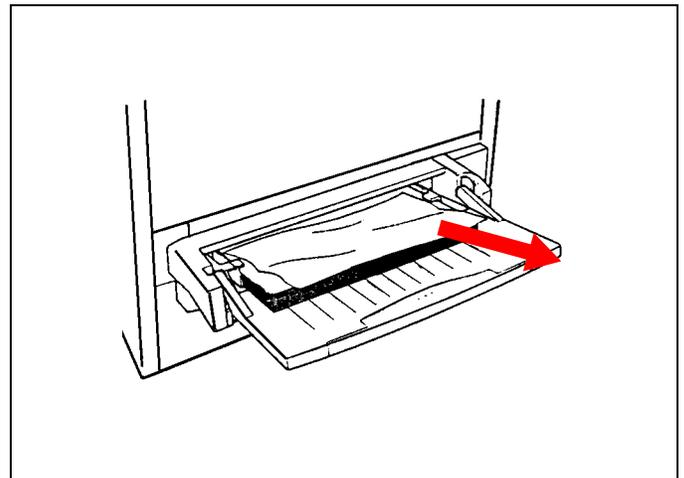

Figure 11
1. See Figure 11. Pull the jammed paper out of the tray. Be sure no torn pieces of paper are left inside.